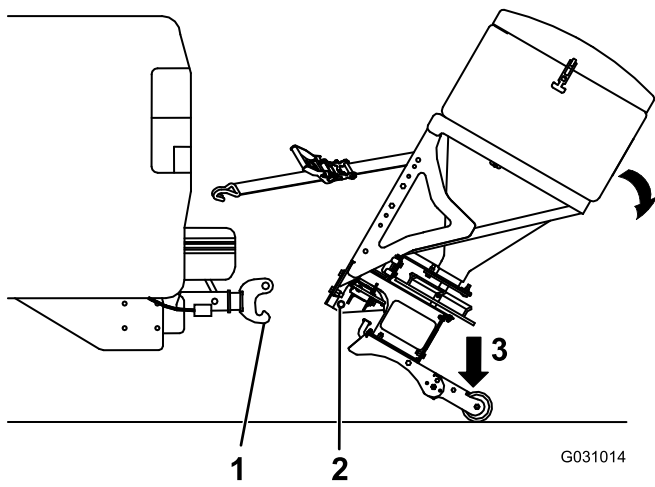

Figure 11
5. Grip the spreader firmly and step on the leg assembly to rotate it back until the bottom pin of the RT3 attachment clears the hook on the RT3 hitch (Figure 11).